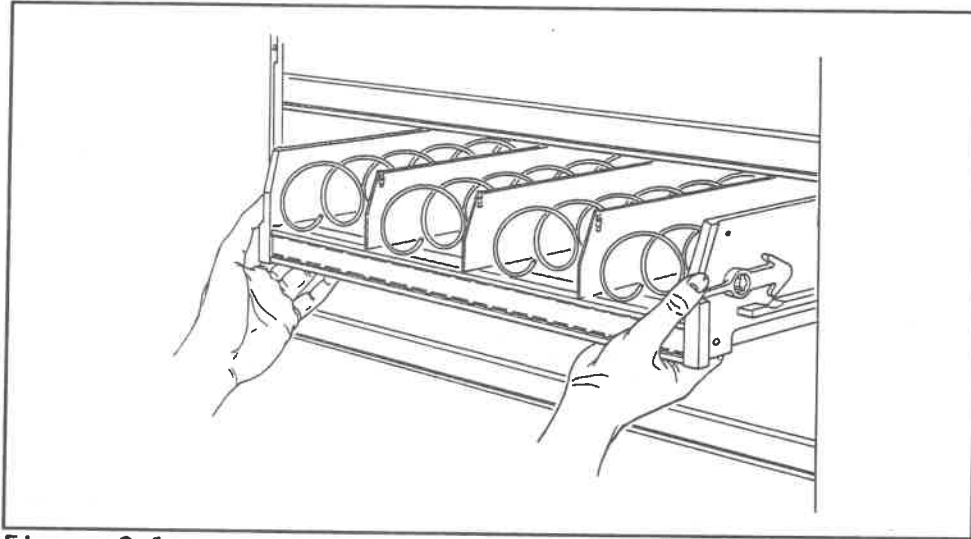

Figure S-1a
- \* Place both hands on the Tray as shown in Figure S-1a.